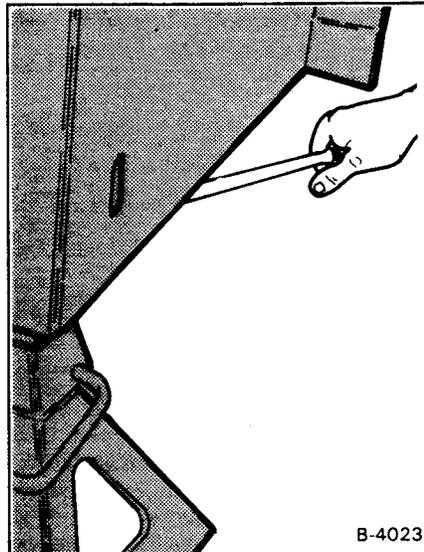

Fig. 1-33 Removing the Fluid
(2) Put container under the reservoir (Fig. 1-33) and remove the fluid.
(3) When all the fluid is out, install the plug and tighten.
(4) Add fluid to the reservoir until the fluid is at the top mark on the dipstick (See the Specifications Section for type of fluid and capacity). DO NOT fill above the top mark on the dipstick.
(5) Start the engine and operate the hydraulic controls through all the hydraulic functions. Check the fluid level again and add as needed.